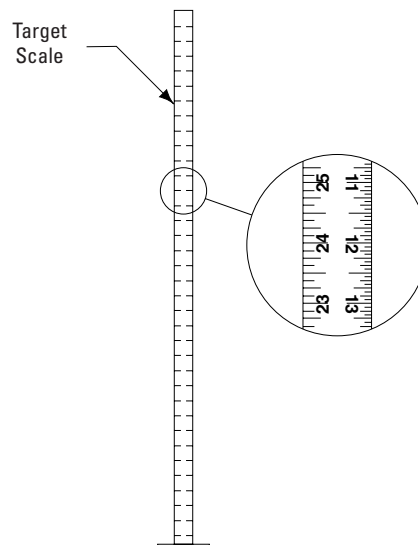

Fig. 29
- D. Beginning with "A" position, Fig. 3, sight the Level to the target and mark the number or the graduation on the inch scale of the target that aligns to the cross hairs of the Level, Fig. 29.